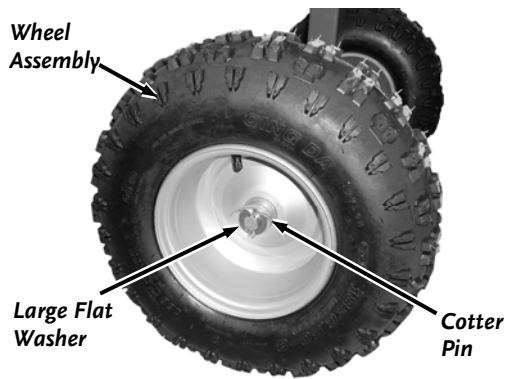

Figure 36
2. Remove the Cotter Pin by straightening the ends and pulling it from the hole in the Axle with Needle Nose Pliers (**Figure 36**).